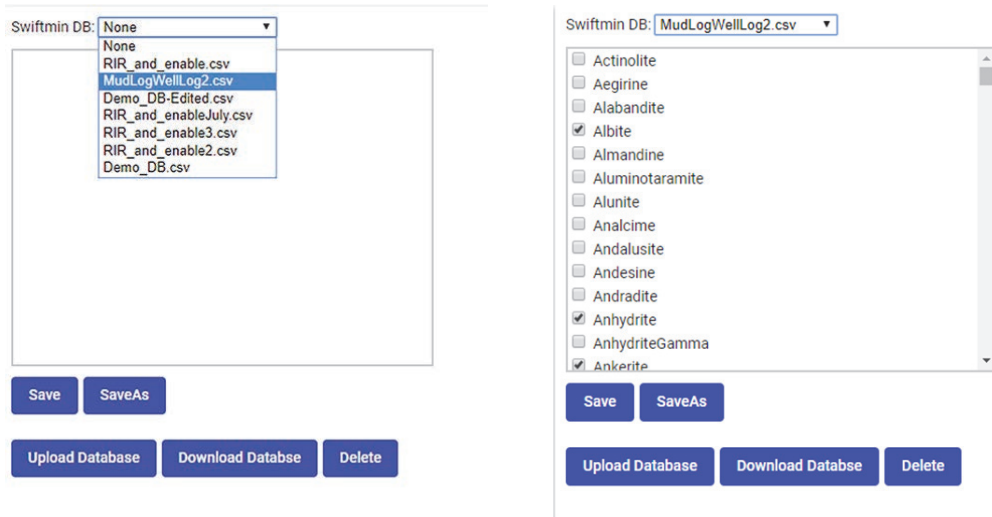

Figure 5-8 Choosing a database (left) and editing the mineral list (right)
2. Click the down arrow in the **SwiftMin DB** selection box, and choose a database (see Figure 5-8 on page 74).
3. In the mineral list, click the check box of the mineral that you want to enable or disable in the database (see Figure 5-8 on page 74).